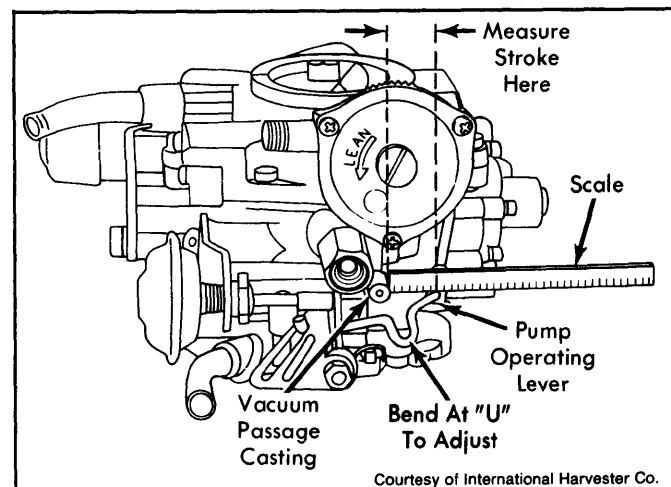

Fig. 2: Adjusting Accelerator Pump Piston Stroke
1) Back idle speed screw off until throttle valves are closed completely. Measure specified accelerator pump stroke distance from vacuum passage casting to center of hole in pump operating lever. See Fig. 2.